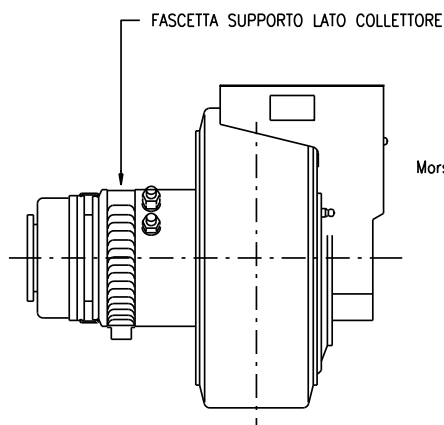

Fig. 14
- a) Remove the clamp from the manifold side support (fig. 14);